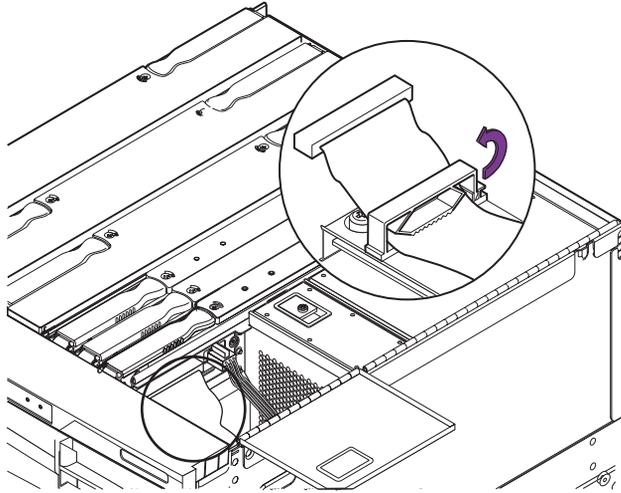
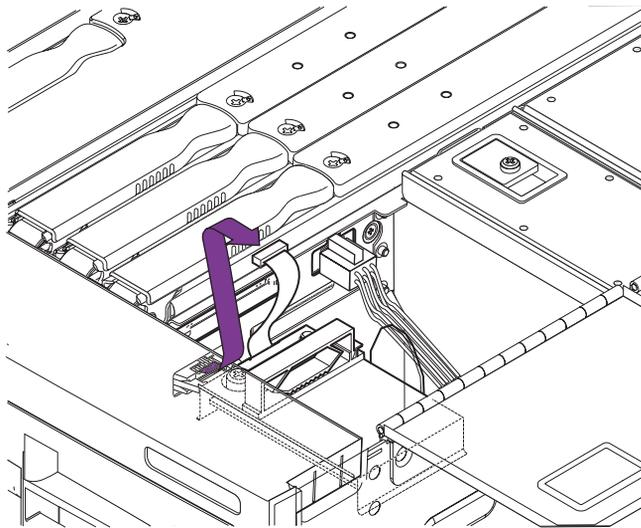

FIGURE 5-21 Disconnecting the IDE Cable
FIGURE 5-22 Disconnecting the SCC Reader Cable
9. **Disconnect the IDE ribbon cable and the SCC reader cable** (FIGURE 5-21 and FIGURE 5-22).
7. Connect the SCC reader cable (FIGURE 5-22).